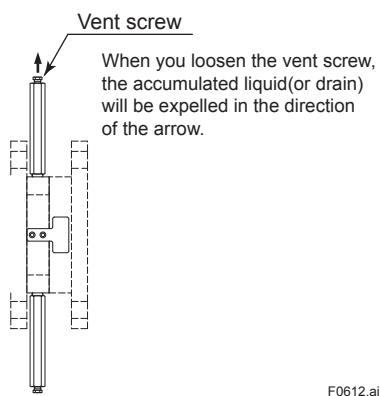

Figure 6.8 Venting for Flushing Connection Ring
- 1) Gradually open the vent screw to vent gas from the flushing connection ring.(See figure 6.8.)